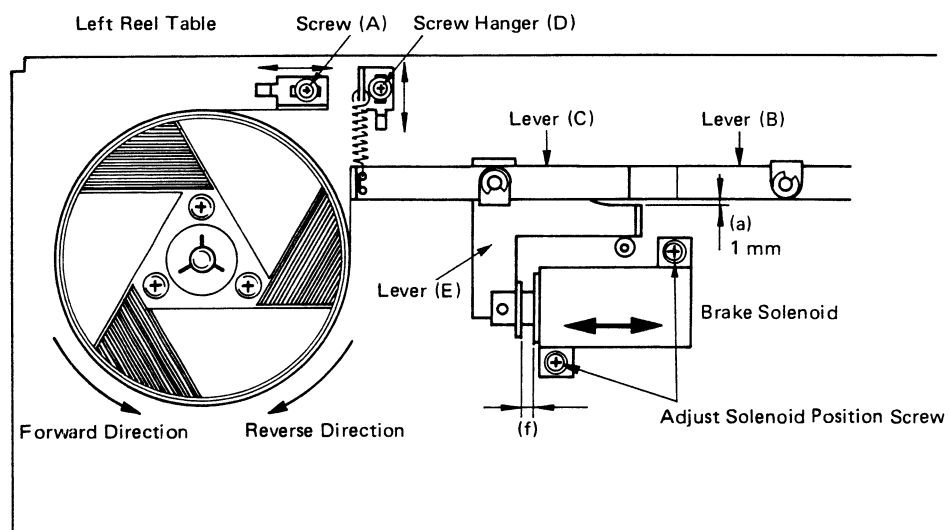

Fig. 2-2.
1. Screw (A) for the left brake (as viewed from the front) must be adjusted so that there is a clearance (a) of 1 mm between lever (C) and lever (E). Screw (A) for the right brake must then be adjusted so that lever (B) is parallel to lever (C). See Fig. 2-2.
- If the forward-direction torque is not correct, change the hooking position of the spring hanger (reference (D) in Fig. 2-2) for the corresponding brake requiring adjustment. If, after the forward-direction torque has been properly adjusted, the reverse-direction torque is not correct, or the forward-direction torque is still not correct, replace the brake felt pad with a new one after cleaning the inner-side of the brake belt with an alcohol cleaning solution, and also check that the brake mechanism is properly aligned as explained in Section 2-4, "Brake Mechanism". If necessary, replace the entire reel table.